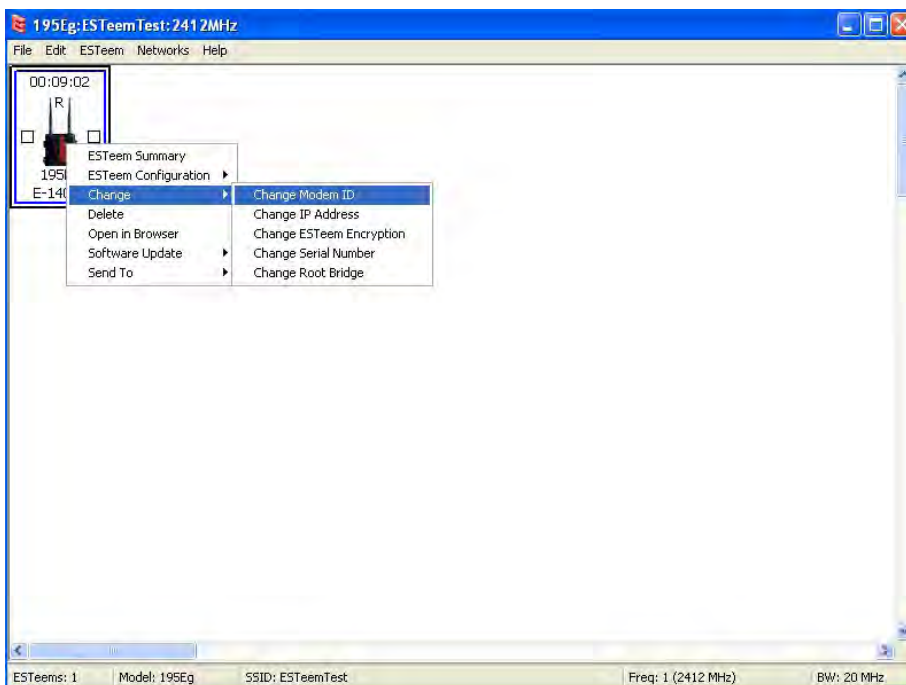

Figure 12: Change Modem ID
3. To change the name of the ESTeem 210 from the WLAN MAC address to “Main Office” (or any other location name) to match the example configuration, Right-Mouse click on the ESTeem icon and select Change>Change Modem ID (Figure 12). Enter “Main Office” in the pop-up window and select OK.